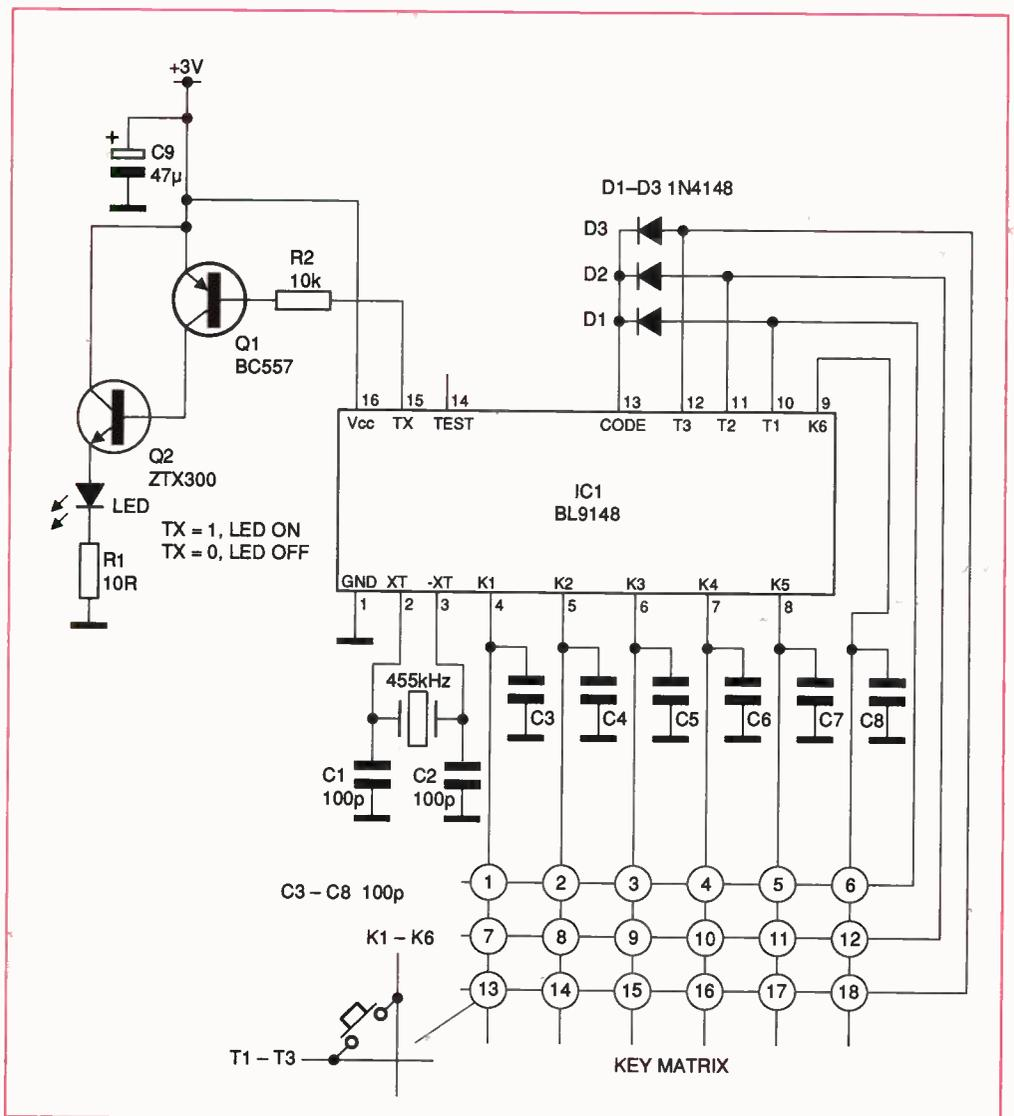

Figure 4: the circuit diagram of the remote control transmitter
The circuit of the remote control handset is given in figure 4. It consists of a BL9148 encoder, a 3 x 6 key matrix, a 455-kHz ceramic resonator, one infra-red emitting LED and two transistors which drive the LED.
From figure 4 we see that pin 16 and pin 1 of the ic are connected to the positive and negative rails of a power supply. Pin 4 to pin 9 (K1 to K6) and pin 10 to pin 12 (T1 to T3) form a 6 x 3 scanning key matrix. Pin 13 (CODE) is used to set a user address of the handset. Pin 15 (TX) is the data output which is a stream of burst of the 38-kHz carrier signal. When no key is pressed, the TX line is always at logic high state. The 455-kHz